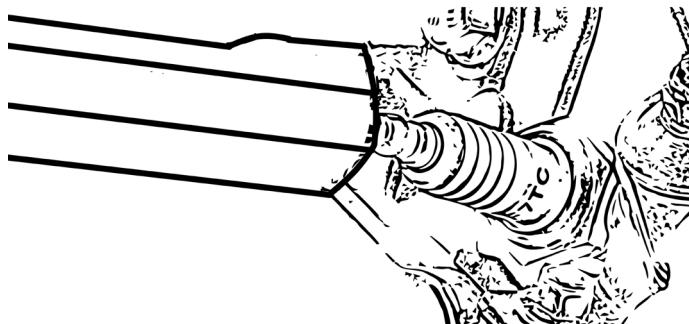

Figure 18
- Loosen the spark plug using the spark plug wrench, Fig. 18.